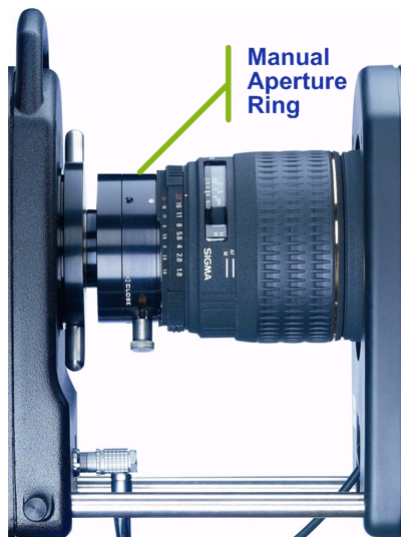

Figure C-1: Camera aperture ring
5. Ensure that the lens aperture is at its most open setting, that is, it is set to the lowest numerical value on the aperture ring (shown in Figure C-1). This lets more light into the camera and minimizes
4. Ensure that the aperture lock (if there is one) is released and that the lens aperture is open to its most open setting, that is the lowest numerical value on the lens aperture ring (shown in Figure C-1). This lets more light into the camera and minimizes the depth of field (for details on depth of field, see Chapter 3 MX Cameras).